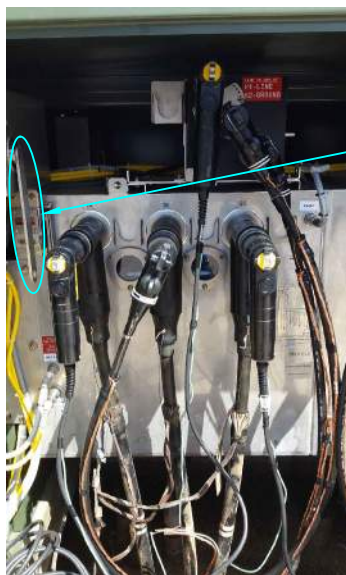

FIGURE 58 Ⓢ
- Ⓢ PRIOR TO ENERGIZING, CHECK TO MAKE SURE MOTOR OPERATOR ACTUATOR ARMS CAN FUNCTION UNOBSTRUCTED. P.T. ELBOWS SHALL BE PLACED ON THE CENTER PHASE POSITION OF THE SWITCH. FAULT INDICATORS SHALL BE POSITIONED AWAY FROM THE TRAVEL OF THE MOTOR OPERATOR ACTUATOR ARMS. SEE FIGURE 58 AND 59.